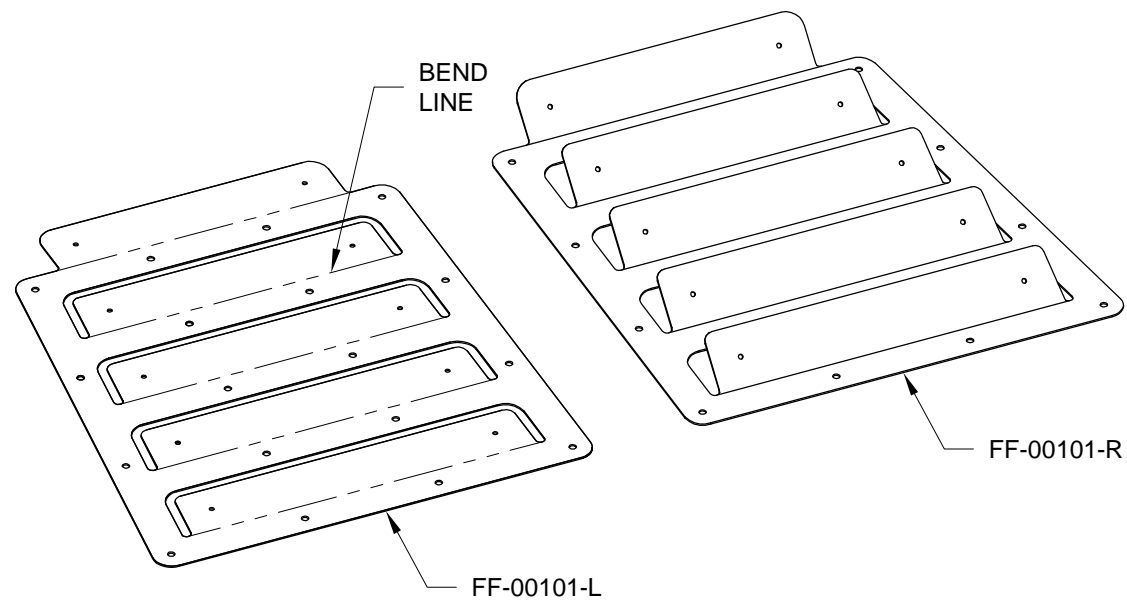

FIGURE 1: BENDING THE LOUVERS
Step 1: Bend the tabs on both FF-00101 Louvers to form the FF-00101-L & -R Louvers. Bend each tab approximately 45° along the bend lines shown in Figure 1.